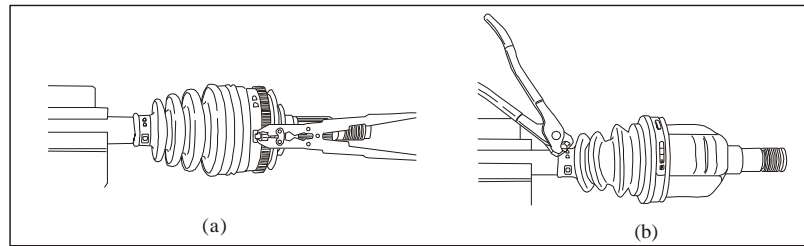

Figure 4-84 Remove Protective Tube
1) Remove the protective tube by using spring clamp pliers and special service tool, as shown in Figure 4-84.